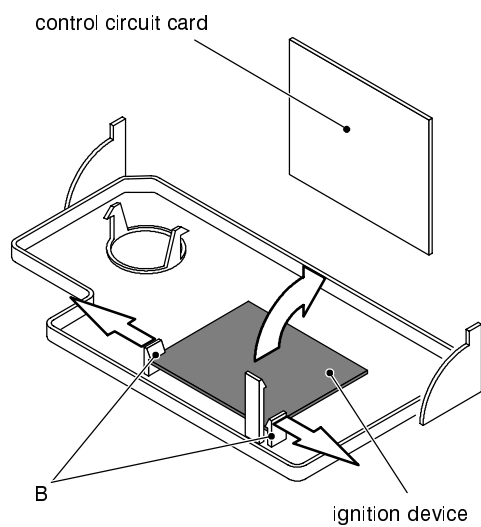

fig. 49
- 4 In similar fashion as the preceding flex the hooks *B* in the directions indicated; unhook and remove the ignition device (fig. 49);